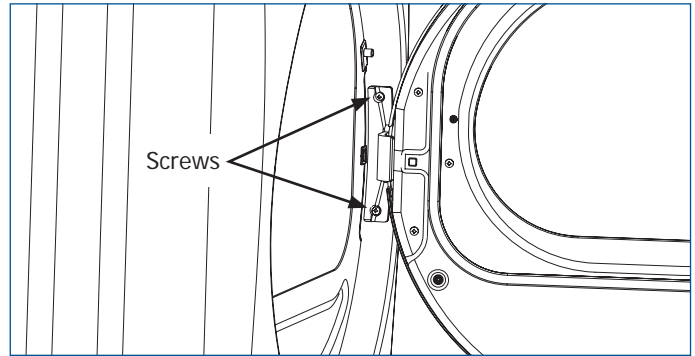

Figure 4-1.
2. Open dryer door and remove the two hinge screws with a Phillips screwdriver. Remove lower screw first, then upper screw. (See Figure 4-1)